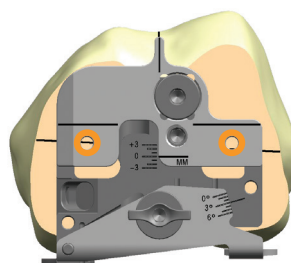

Figure 26
5. Once both the A/P and rotational measures are desirable relative to the anatomic landmarks, drill about a 1 inch (25mm) deep hole through each of the two holes in the drill guide (Figure 26).